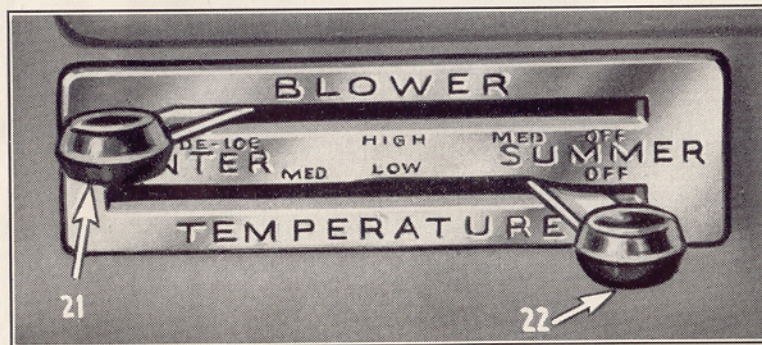

Figure 48
The upper or blower lever (21, Figure 48) operates the heater door, blower valve located inside the blower housing which directs air either to the passenger compartment or to the windshield for defrosting and the switch controlling the blower speed. The lower or temperature lever (22) operates a summer door located inside the heater housing for summer driving conditions and a thermo-